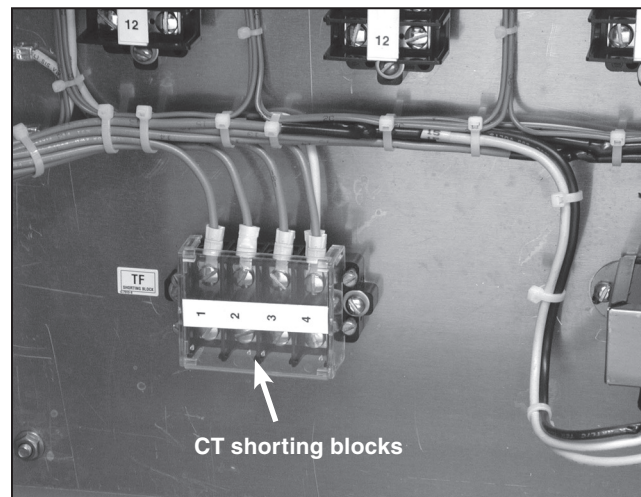

Figure 20. Make sure the pins are removed from the CT shorting blocks.
STEP 12. Make sure the pins have been removed from the CT shorting blocks and the cover on the optional test switch, if furnished, is securely in place. See Figures 20 and 21.